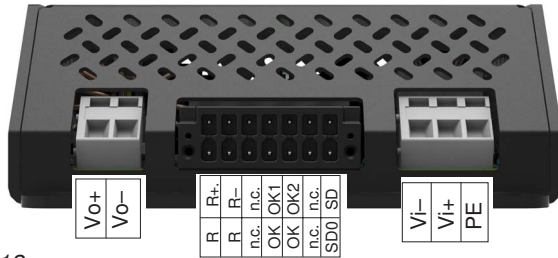

Fig. 12
- Auxiliary connector: Phoenix Contact 1713883; recommended wire section: 0.2 – 1.5 mm², 24 – 16 AWG; pin allocation see fig. 12.